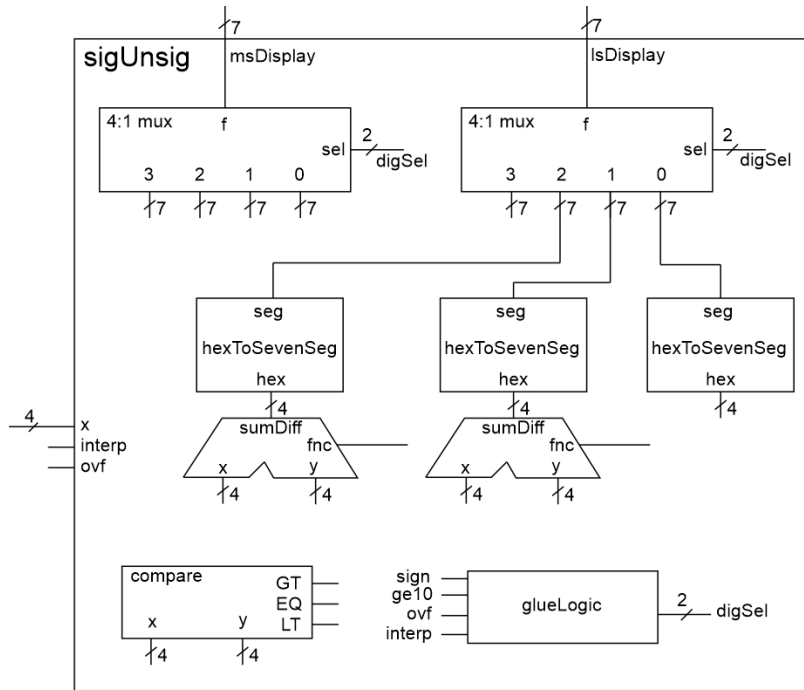

Figure 6.4: The internal architecture of the signUnsig module.
Listing 6.2: Logic that determines the output of the 4:1 muxes in Figure 6.4.
Now we are ready to put the pieces of the sigUnsig module together. The building blocks in Figure 6.4 are captured in the organization described by Listing 6.2, along with some extra hardware.
Complete Figure 6.4 by adding the following:
Al that remains is to define the contents of the `glueLogic` box in Figure 6.4.
Now complete the truth table in Table 6.3 for the `glueLogic` box in Figure 6.4.
- Complete Figure 6.4, including: